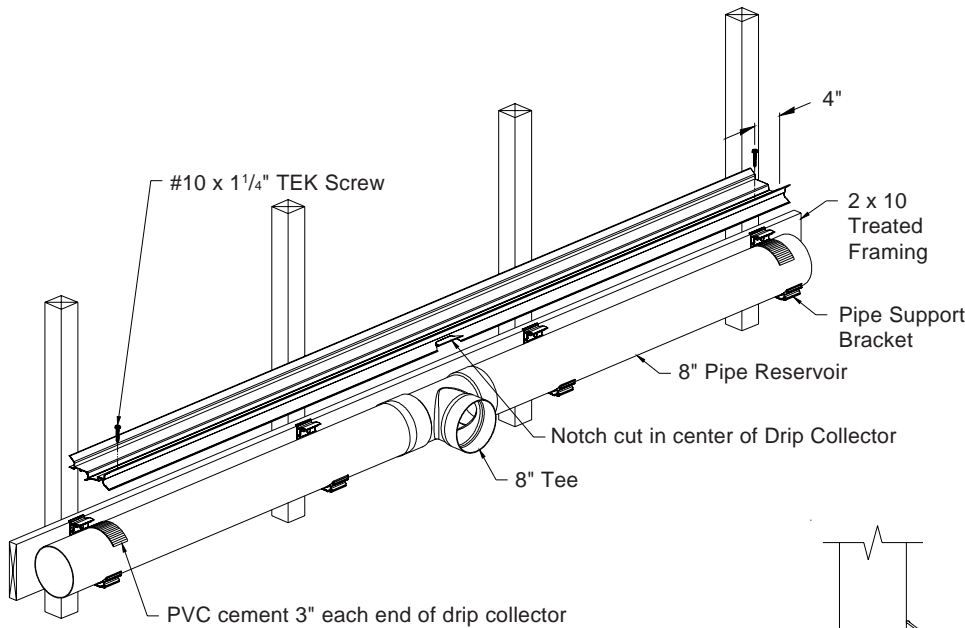

Figure 6D
9) Carefully lift end of drip collector off 8" pipe. Prime and PVC cement a 3" wide area on 8" pipe, at both ends of collector. Replace drip collector on the 8" pipe, keeping it level. Fasten each end of collector to 8" pipe using (1) #10 x 1/4" TEK screw located 4" from each end. **See Figure 6D and 6E.**